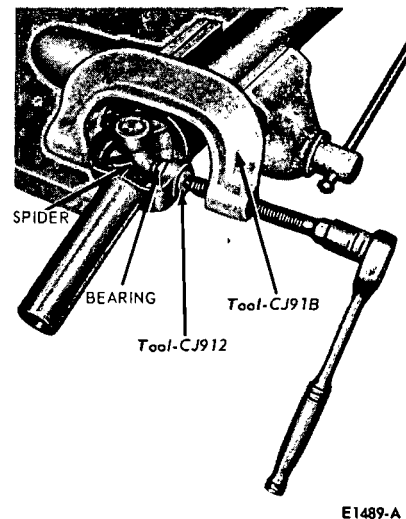

FIG. 4—Removing Universal Joint Bearing
3. Position the tool shown in Fig. 4 on the shaft and press the bearing out of the slip yoke. If the bearing cannot be pressed all the way out of the yoke, remove it with vise grip or channel lock pliers.